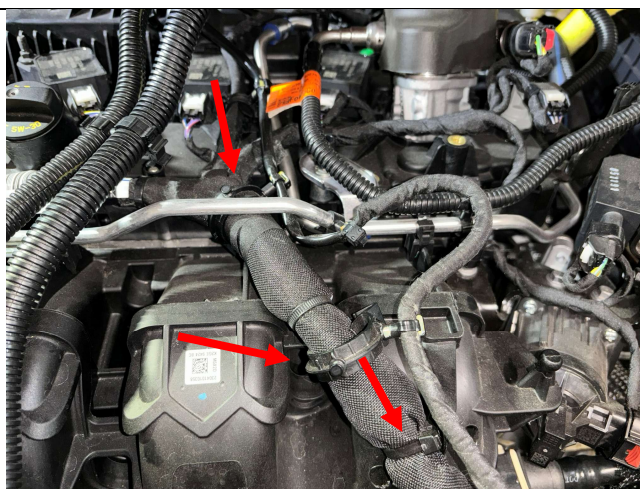

Figure 18
18. Release the three wiring harness retaining clips as shown in Figure 18.